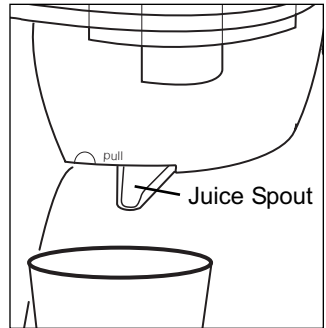

Figure 1
4. Follow the Assembly Instructions. Be sure to pull out the Juice Spout and place a container beneath the spout to collect the juice. See Figure 1.